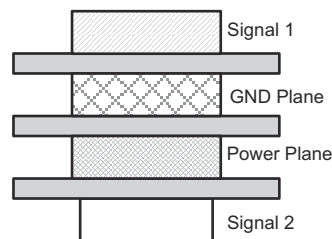

Figure 10-3. Four-Layer Board Stack-Up
8. Due to high frequencies associated with the USB, a printed circuit board with at least four layers is recommended; two signal layers separated by a ground and power layer as shown in Figure 10-3.